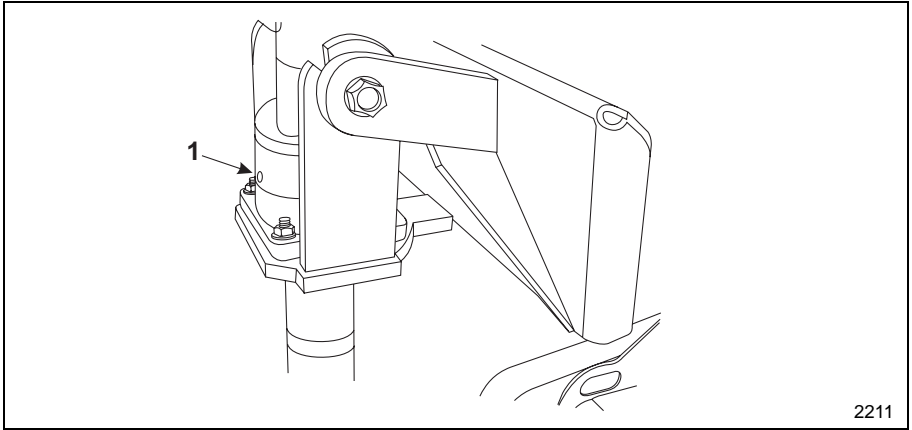

Figure 1–16 Oil Drain Plugs
2. Remove both hydraulic lines (Item 1, Figure 1–15) from the hydraulic motor fittings.
3. Remove both 90° fittings (Item 2, Figure 1–15) and O-rings (Item 3, Figure 18) from the hydraulic motor and set aside for reinstallation.
4. Remove the two hydraulic motor mounting bolts (Item 1, Figure 1–15).
Remove the oil drain plug (Item 1, **Figure 1–16**). Proper oil level should be at the bottom edge of the oil plug drain hole.
2. Remove the both oil drain plugs (Item 1, **Figure 1–16**), located on the front and rear of the gear case.